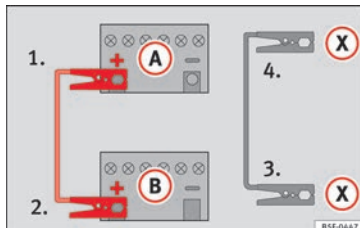

Fig. 87 Diagram of connections for vehicles with Start-Stop system.
– *For vehicles with Start-Stop system:* connect one end of the **black** jump lead **(X)** to a suitable ground terminal, to a solid piece of metal in the engine block, or to the engine block itself »» **Fig. 87**.